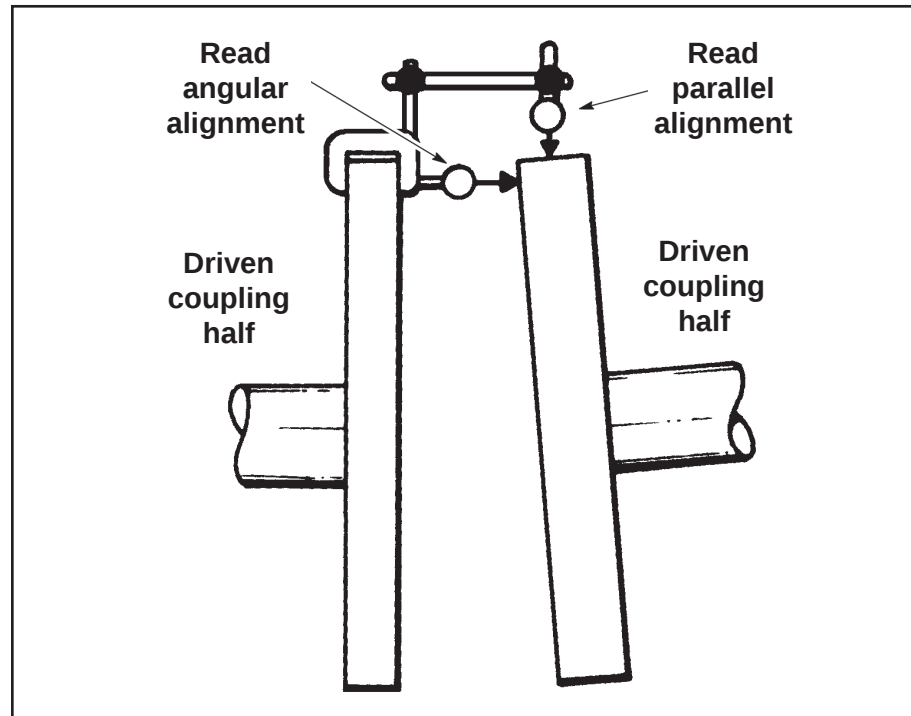

Figure 7-43: Measuring For Parallel Alignment
1. Set up a dial indicator to read parallel alignment. If available, set up a second dial indicator to read angular alignment. This will allow you to rotate the shafts only one time to get both readings (see "Figure 7-43: Measuring For Parallel Alignment").